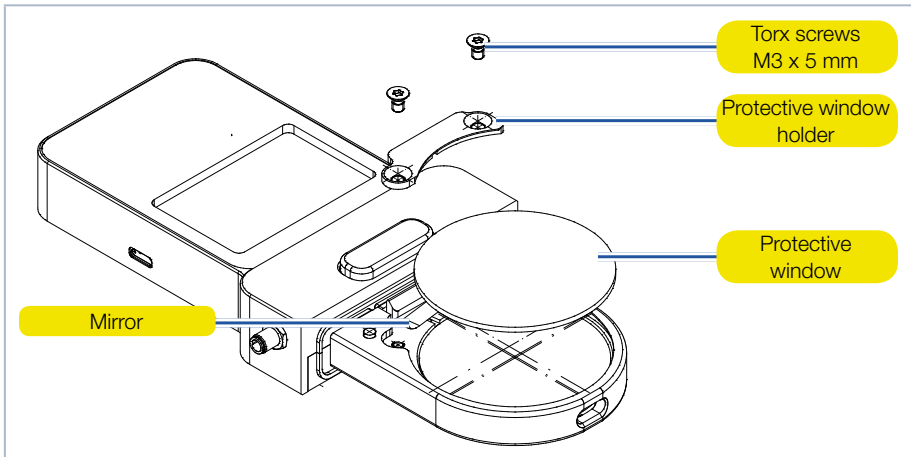

Fig. 14.2: Exchanging the protective window on the PMC-YW
3. Place the device as shown in Fig. 14.2 on page 33 and carefully remove the protective window holder upwards.
6. Place the protective window holder according to Fig. 14.2 on page 33.